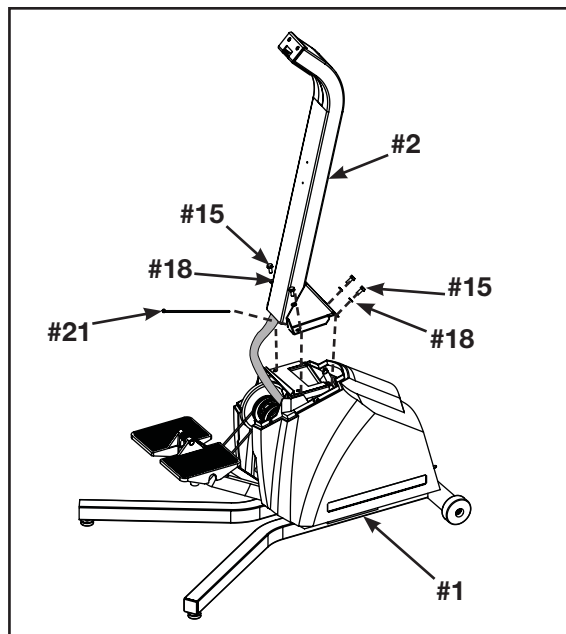

Figure 3
- A. Locate the display upright (#2), four screws 5/16-18 X .75" (#14) and four washers 5/16" (#18). See Figure 3.
- C. Using a 1/2" open end wrench secure the display upright (#2) to the base (#1) using four screws 5/16-18 x .75" (#14) and four washers 5/16" (#18). See Figure 3.
- D. Locate the wire tie (#21) and secure the display cable to the upright (#2). See Figure 3.